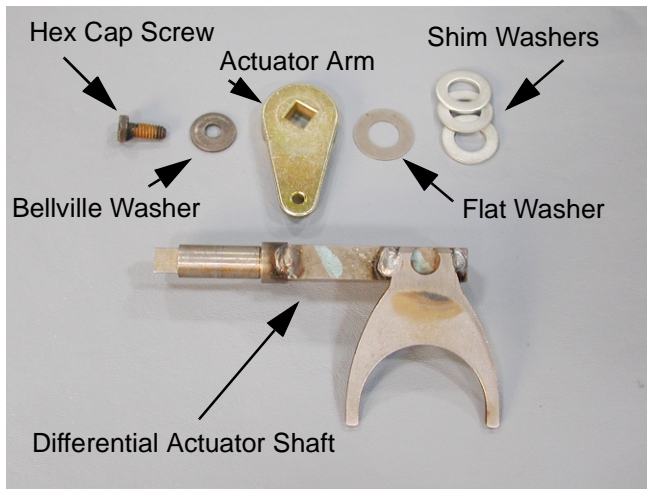

Figure 22
30. Remove the differential lock assembly and inspect for wear or damage. See Figure 22.